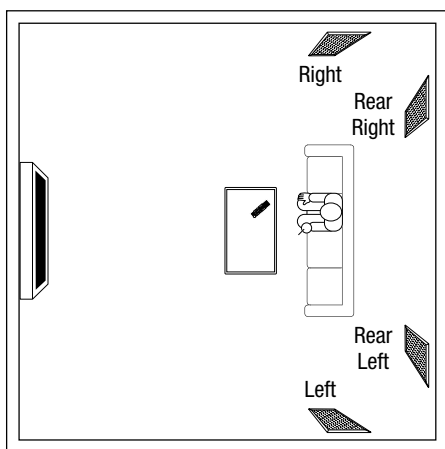

Figure 4. Two pairs of loudspeakers reproduce Dolby Surround EX® surround sound in a home theater room.
- If your home theater system is capable of reproducing Dolby Surround EX® consider using a second pair of StageFront FX loudspeakers (on the side walls) for an additional rear surround effect, as shown in **Figure 4**. Ideally, the side loudspeakers should be placed in-line with the listening position with the BIPOLE/DIPOLE controls set to DIPOLE. For a more focused surround effect, set the BIPOLE/DIPOLE controls to BIPOLE.